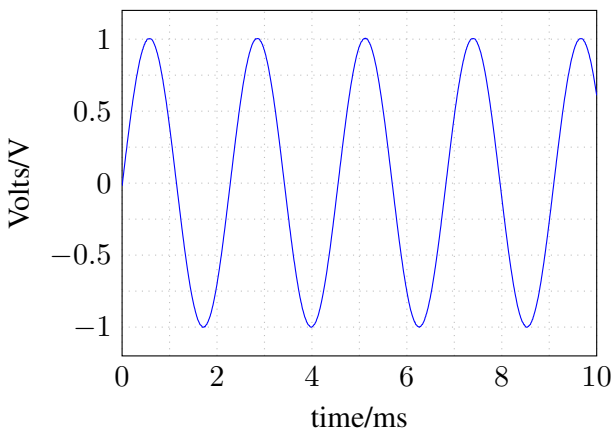

Fig. 24: Sine wave generator set to 440 Hz, amplitude set to 1 V measured between GND and Left Ampl.
1. Set the frequency of the sine wave signal generator to roughly 440 Hz. Adjust the volume of the sine wave signal generator and/or the `Level` potentiometer (P1) on the board until the oscilloscope shows a sine wave with an amplitude of 1 V. Make sure the displayed waveform is a proper sine wave that is clipped neither at the top nor at the bottom (Figs. 24 and 25).
3. Set the frequency of the sine wave signal generator to roughly 440 Hz. Adjust the volume of the sine wave signal generator and/or the `Level` potentiometer on the board until the waveform on the oscilloscope shows an amplitude of 1 V. Make sure the displayed waveform is a proper sine wave that is clipped neither at the top nor at the bottom (Figs. 24 and 25).